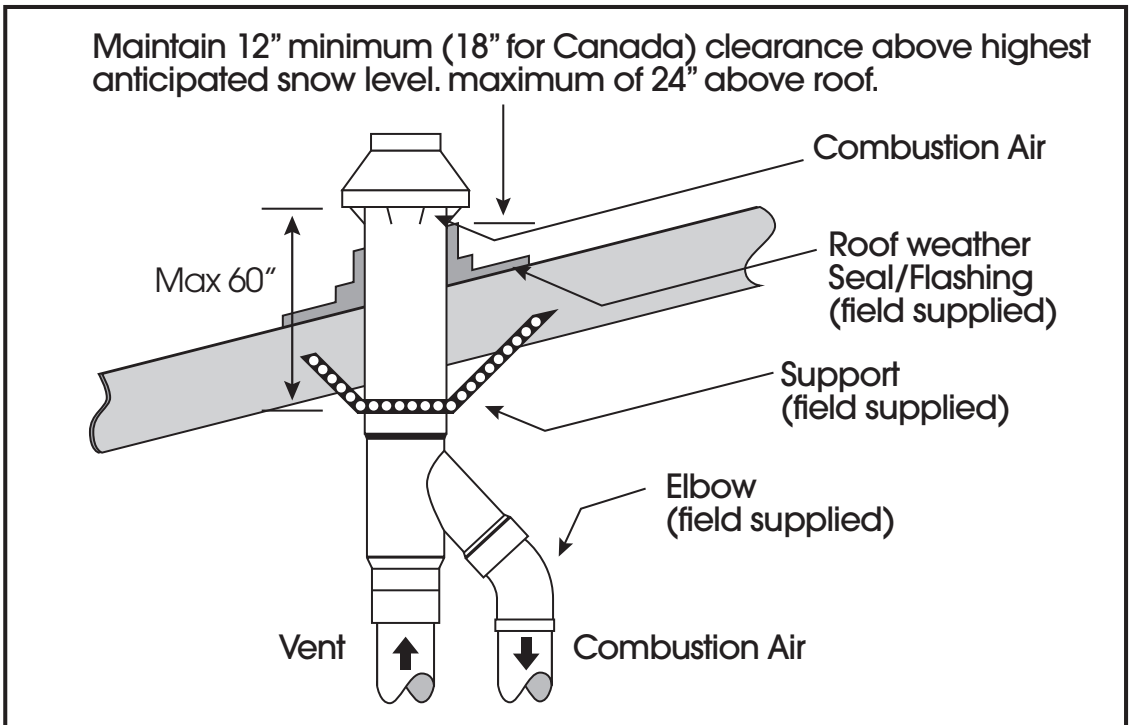

Figure 3-Typical Roof Install
7. Secure to roof (Figure 3) using metal strapping or equivalent support material (user supplied).
9. Cement furnace combustion air and vent pipes to Concentric Vent. Refer to Figure 3 for proper pipe attachment.
NOTE: If assembly is too short, the 2 pipes supplied in the kit may be replaced by using same diameter, field supplied SDR—26 PVC (D2241) pipe. Do not extend pipes with Schedule 40 PVC or couplings. The additional wall thickness will restrict combustion air and may cause operational problems. Do not extend air inlet pipe more than 60" (Figure 3).